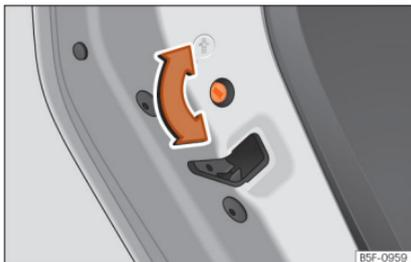

Fig. 88 Childproof lock on the left hand side door.
- With the door open, rotate the groove in the door using the ignition key, clockwise for the left hand side doors »» Fig. 88 and anti-clockwise for the right hand side doors.
- With the door open, rotate the groove in the door using the ignition key, anti-clockwise for the left hand side doors »» Fig. 88 and clockwise for the right hand side doors.